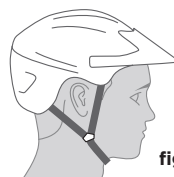

fig. 1
1. Always wear a cycling helmet (fig. 1) that meets the latest certification standards and is appropriate for the type of riding you do. Always follow the helmet manufacturer's instructions for fit, use and care of your helmet. Most serious bicycle injuries involve head injuries that might have been avoided if the rider had worn an appropriate helmet.